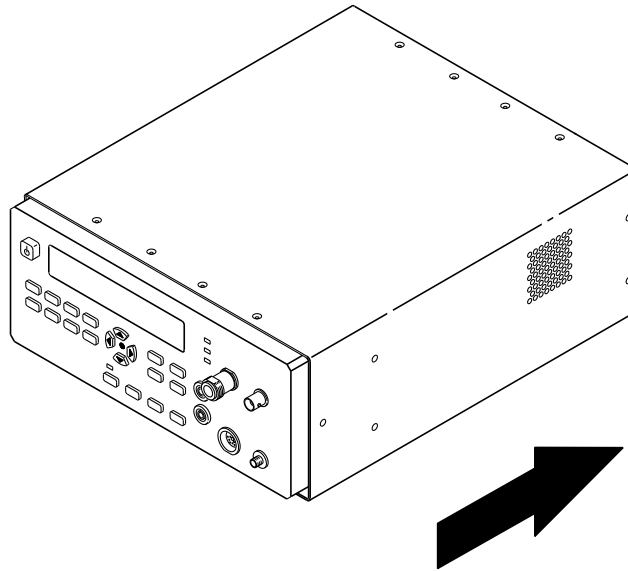

Figure 3-4 Removing the Shroud
- 6 Slide the shroud off the chassis to the rear (see Figure 3-4), and place it aside (if the shroud does not slide easily off the chassis, press on the rear panel with one hand while pulling the shroud with the other hand).